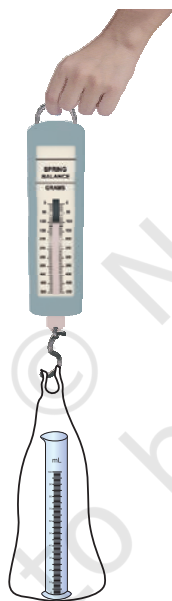

Fig. 3.1 : Measurement of mass of a measuring cylinder using a spring balance
2. Hold the spring balance vertically and ensure that its pointer is at zero mark. Place the empty cylinder in a polythene bag and suspend it from the spring balance as shown in Fig. 3.1. Note the reading, M_1 , of spring balance.